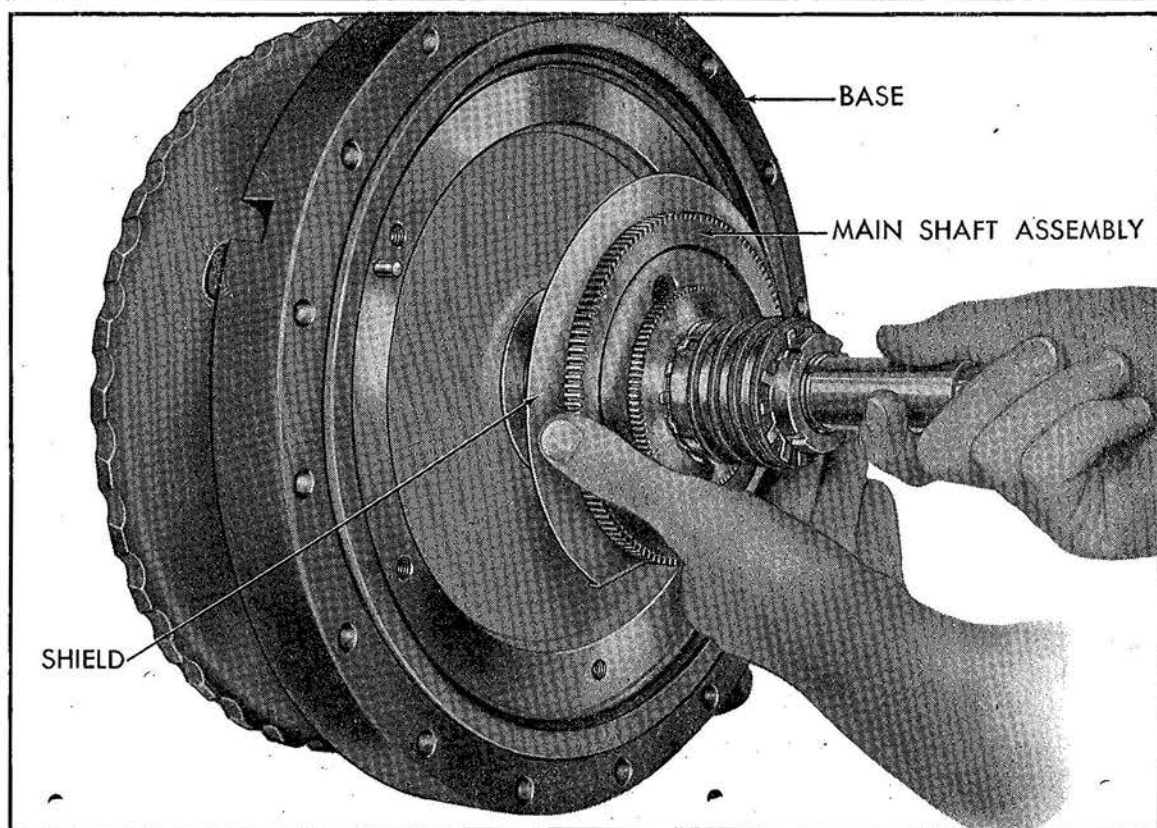

Figure 26.—Removal of Main Shaft
17. Withdraw main shaft with gear cluster and shield from engagement with the base. (See Figure 26.)